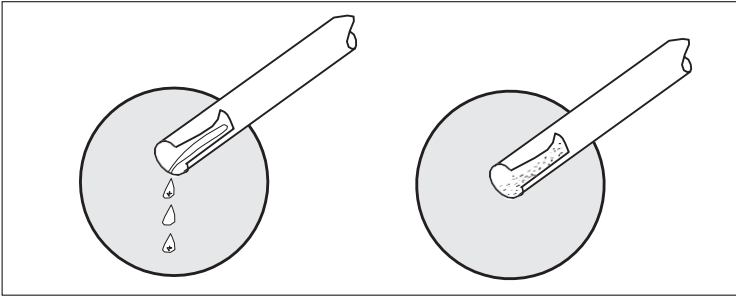
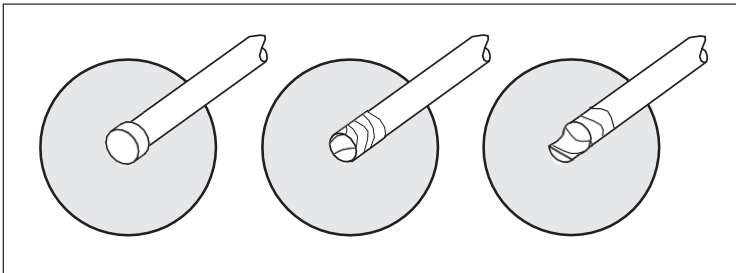

Figure 4. Dirty pipe-ends.
Figure 5. Pipe caps.
- When laying the piping, protect the open end of the pipe against dust and moisture (see Figure 4) by carefully shielding them with tape or a protection cap (see Figure 5).